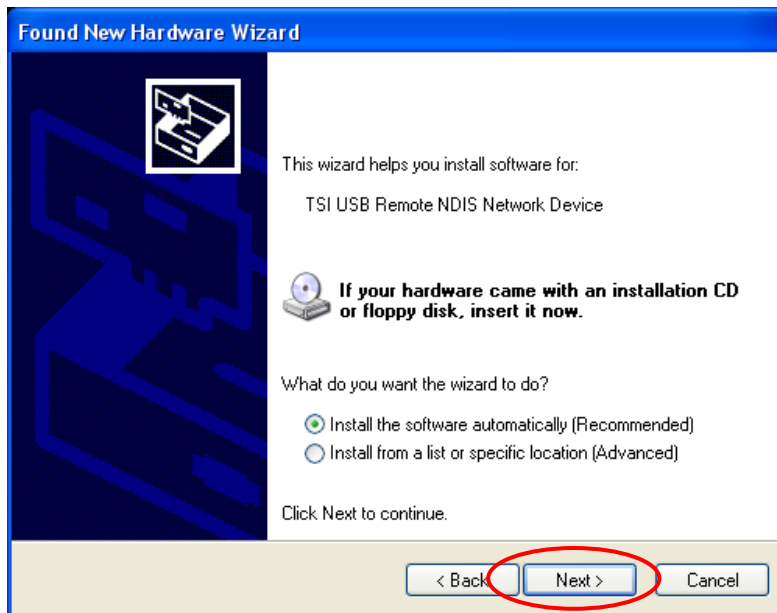

Figure 8
10. Select the **Install the software automatically** action then, select the **Next >** button (Figure 8).
In the event that the instrument is not attached or not powered, the following error will be shown in the status box of the application (Figure 8):